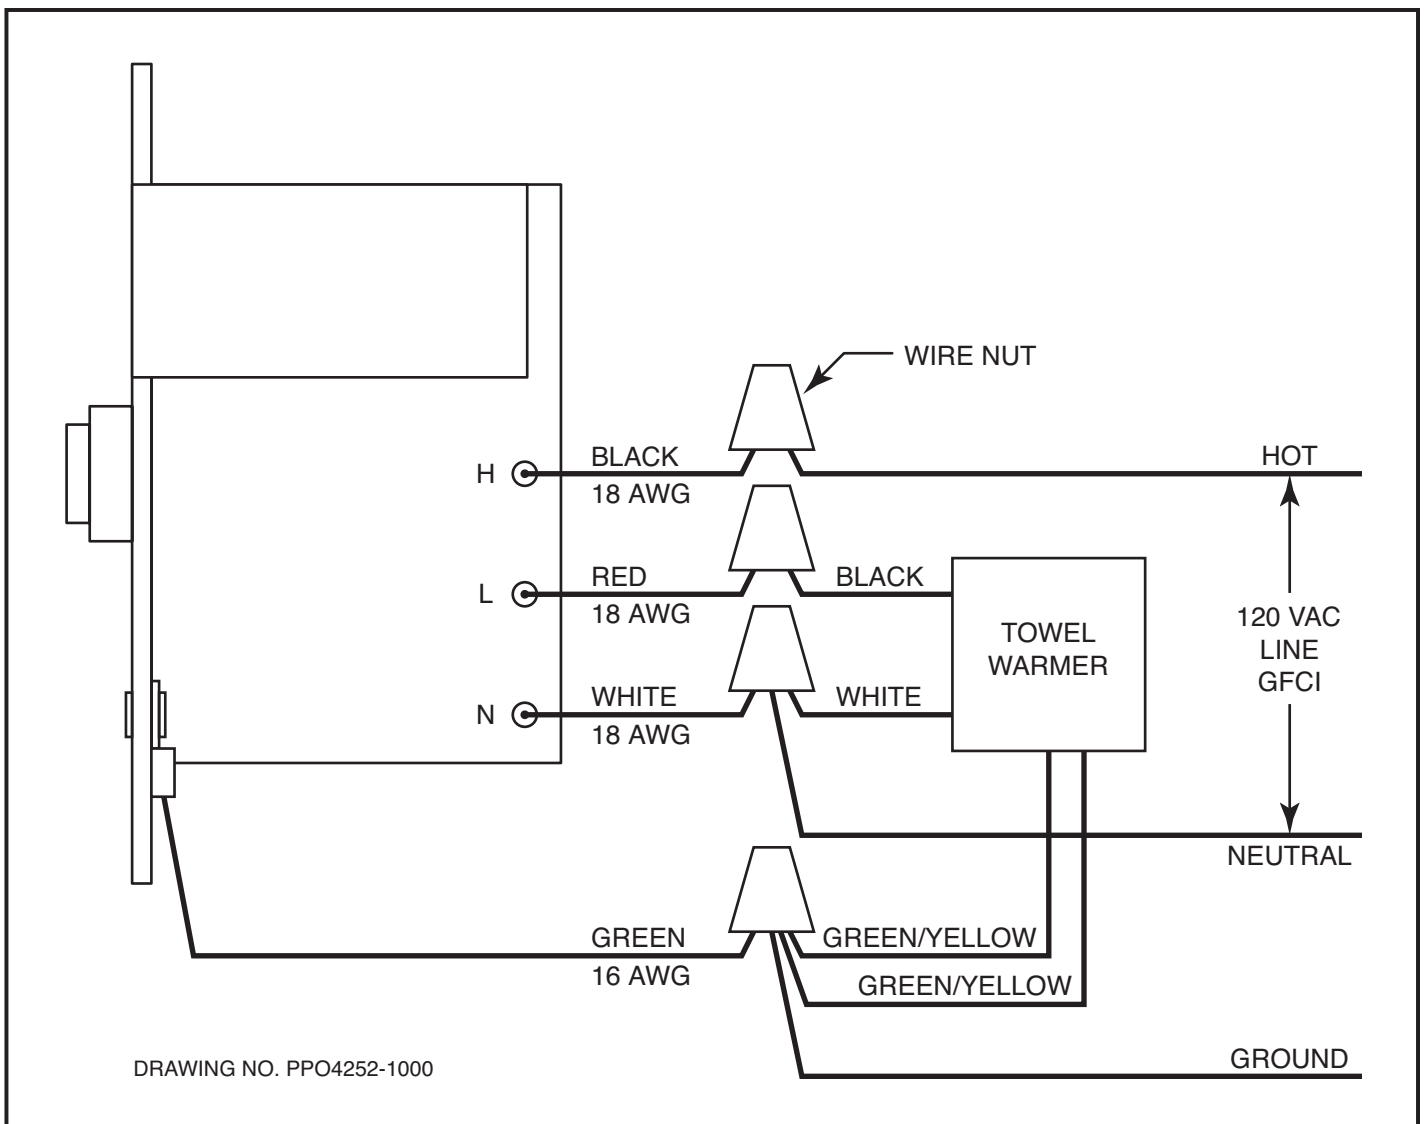

Figure 5
- B. Make electrical connections per wiring diagram (Fig 5) and National Electric or Local Codes.